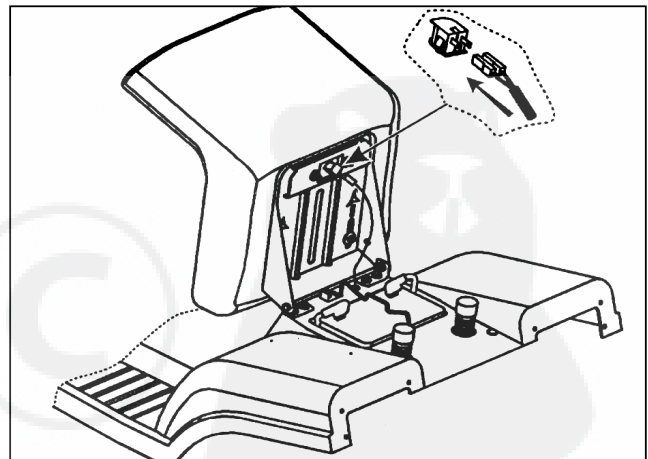

Fig. 3
SEAT (Fig. 3)
4. Connect the safety switch (Fig. 3).